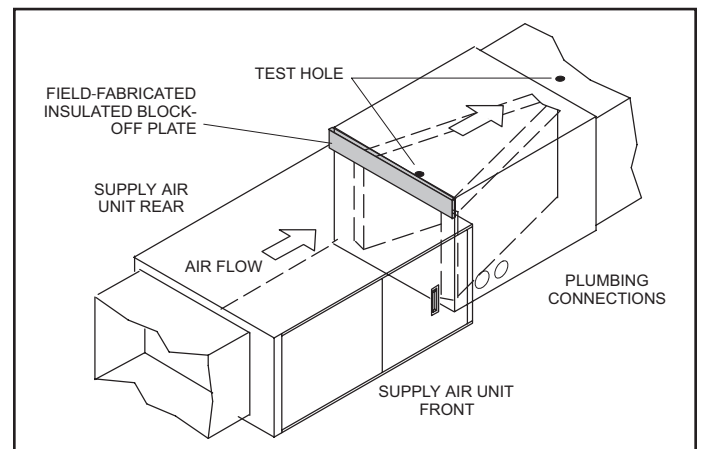

Figure 2. D-Width Coil with C-Width Furnace
5. **Applications using BH1P-60 D-width unit with C-width furnace** — Figure 2 shows an application that includes a D-width coil and a C-width furnace. This application requires construction of an insulated, field-supplied block-off plate to cover the open space on the coil housing.